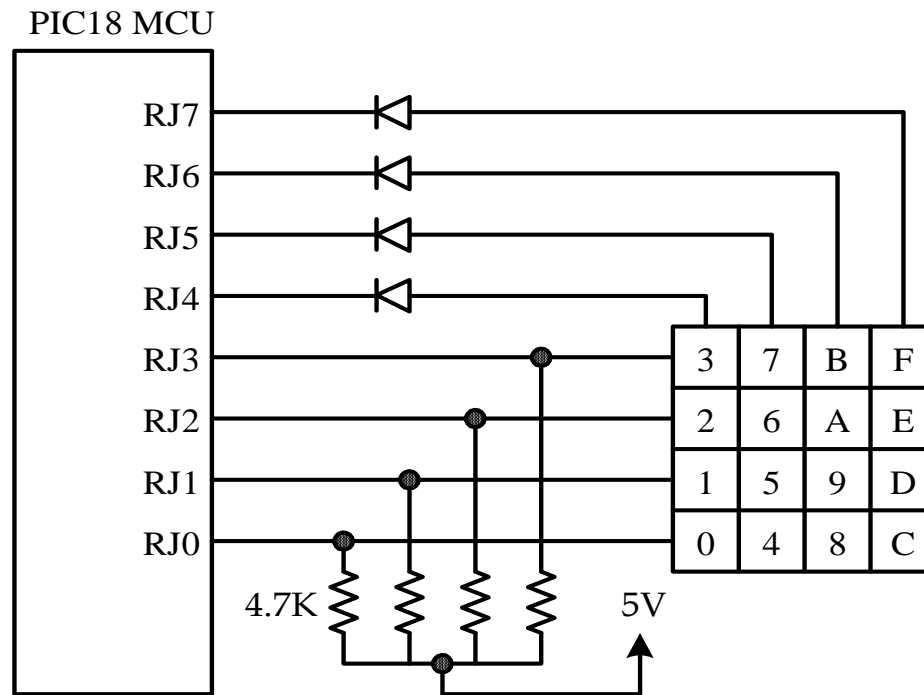

Figure 7.26b Sixteen-key keypad connected to PIC18 (used in all SSE demo boards)
- A simple keypad is shown in Figure 7.26b.
- The diodes in Figure 7.26b provides protection of accidental simultaneous press of multiple keys.